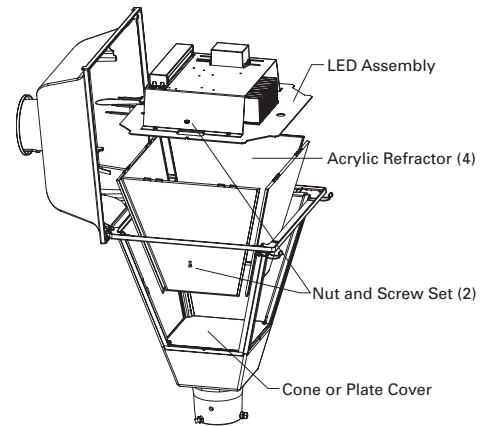

FIG. 4
2. Remove two nuts and screw on LED assembly **(FIG. 4)** and lift LED assembly to side.